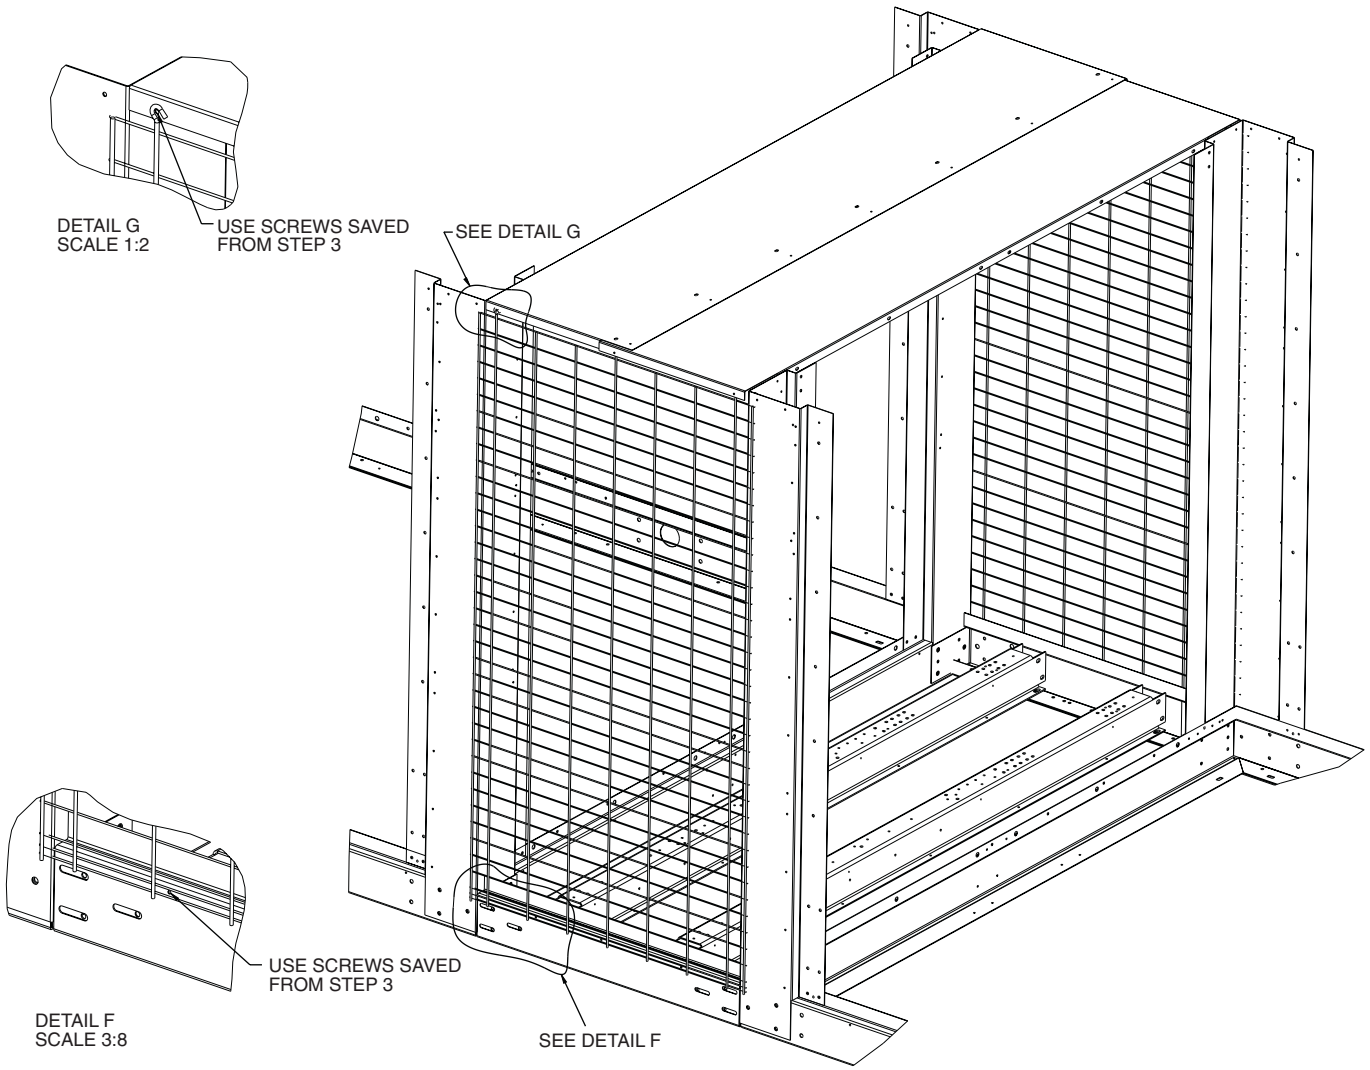

Fig. 6 — Guard Attachment Locations
11. Using the 1/4-in. screws saved from Step 3, attach one full length vinyl coated guard to each side of the center section. The top of each guard attaches to the top cover flanges. The bottom of each guard attaches to the base rail section. See Fig. 6.